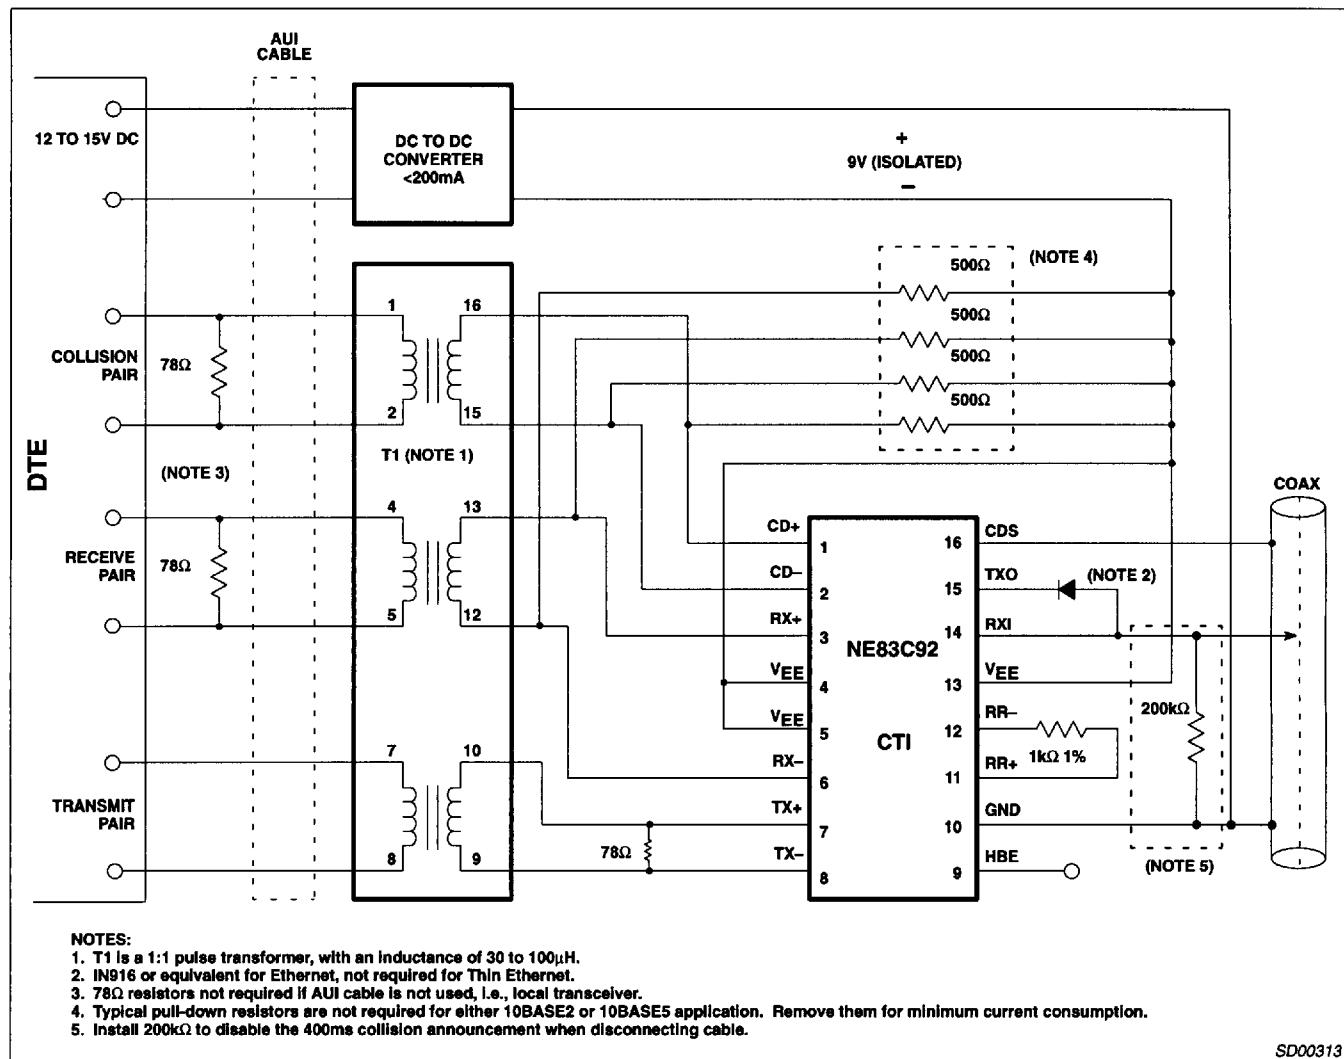

Figure 1. Connection Diagram for Standard 8392 Applications
2. Measured on secondary side of isolation transformer (see Figures 1 and 2, Connection Diagram). The transformer has a 1:1 turn ratio with an inductance between 30 and $100\mu H$ at 5MHz.